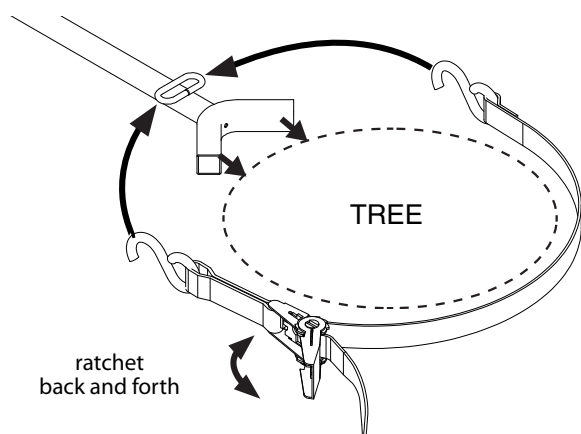

Figure 1
- a. Position (2) people at the platform end of the ladder, lift the platform end, and continue uprighting by walking toward bottom end of ladder and moving hands along ladder legs. **Stand ladder up against chosen straight tree on dry, level ground.** Use caution when ladder comes over center against tree.
- d. With ratchet strap now in hand, hook "S" hook with long strap to the stabilizer bar link welded on stabilizer bar. Feed the long strap through the center (slot) of ratcheting mechanism and back around through tightening lever. **SEE FIGURES 1 AND 2.** Secure the ladder tight so the stabilizer bar is at a right angle to the tree. Adjust stabilizer bar length as necessary so it contacts tree. Be absolutely sure the tree blade(s) at top and the stabilizer bar are all contacting tree.
Wrap entire ratchet assembly around tree and hook other "S" hook through opposite side of stabilizer bar link. Pull tail of long strap until most of the slack is taken out. Be sure entire strap is even and at the same level all around tree. "Ratchet" tight to tree, this will securely attach stabilizer bar to tree. **SEE FIGURE 1.** Be absolutely sure the tree blade(s) at top and stabilizer bar are all contacting tree.